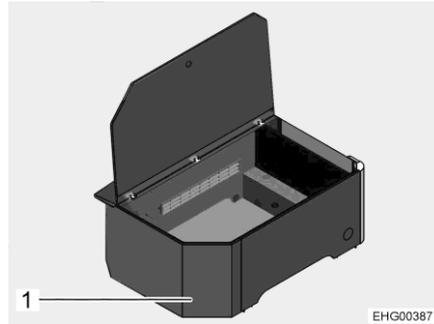
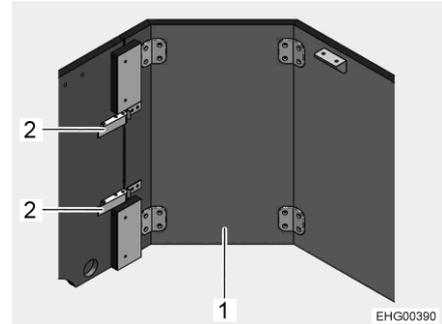

Fig. 19 Divan, open (shown without additional seat)
Fig. 20 Wooden element, removable
- Release both clamp fasteners (Fig. 20,2) on the removable wooden element (Fig. 19,1 and Fig. 20,1).